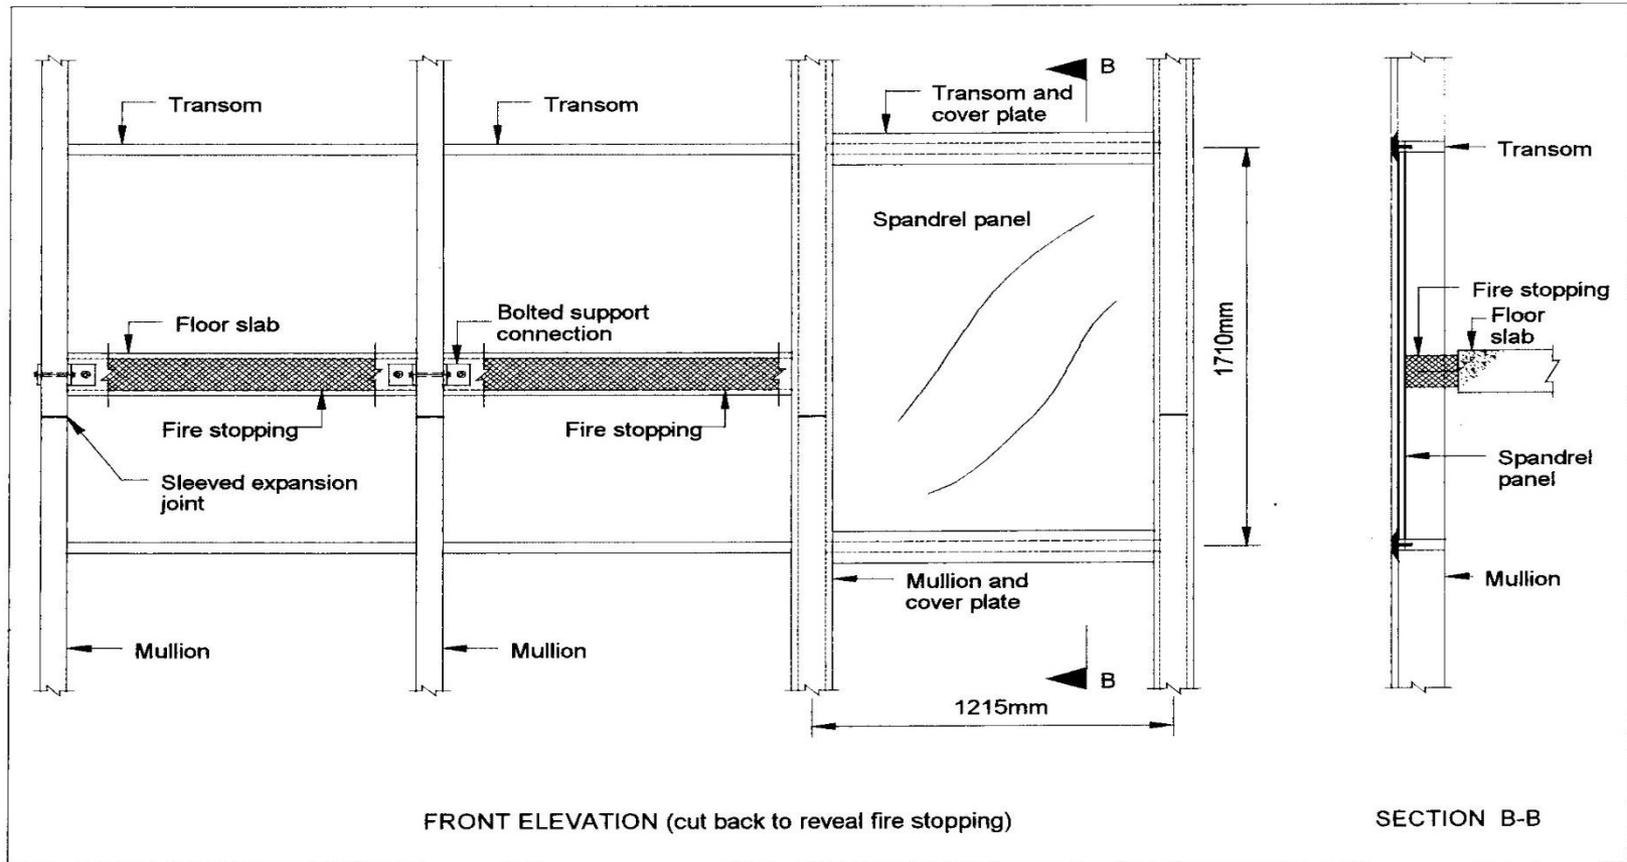

Figure 1 - Typical curtain wall system panel
**Fig. 1.** Face of full-scale, permanent, fire-test facility at USG Corporation Research Center is set up for curtain wall fire test. Metal frame supports thermocouples for measuring flame plume temperature. Left side is “THERMAFIBER Curtain Wall Insulation Unit”; right side is “Glass Fiber Unit.”